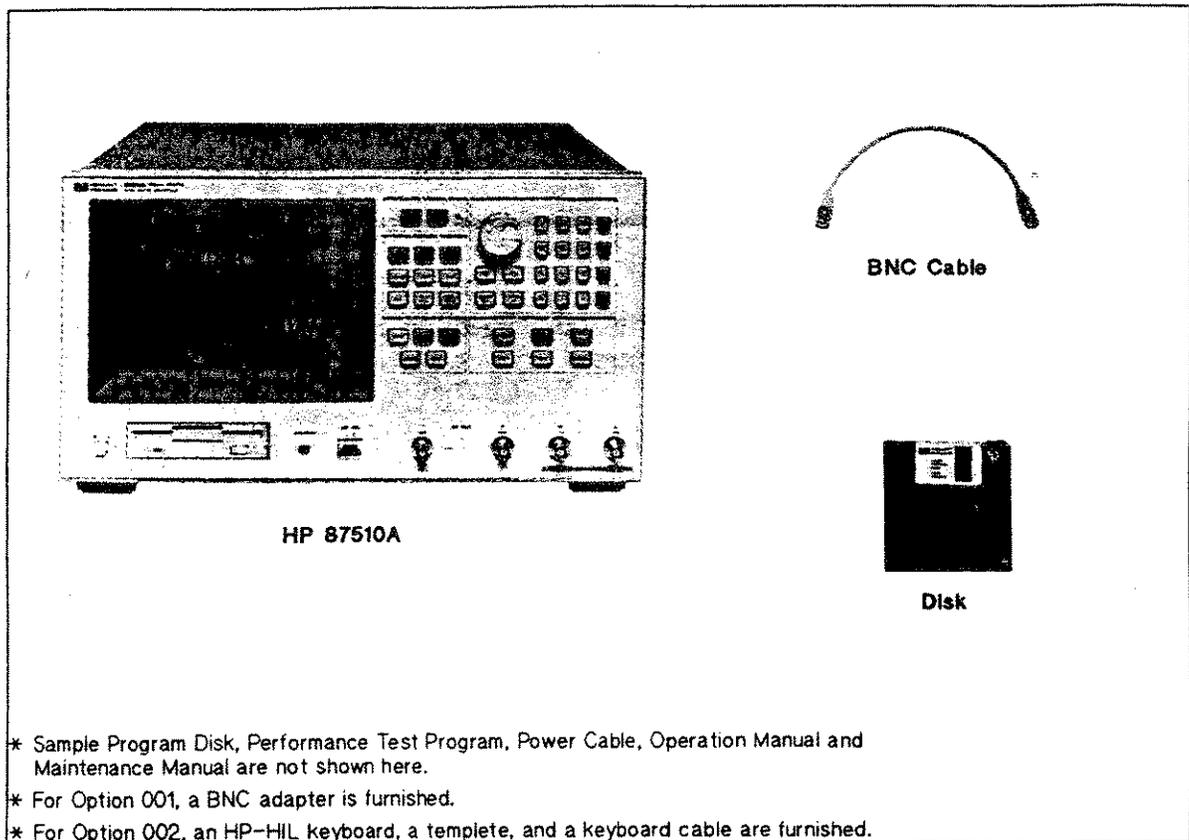

Figure 1-1. HP 87510A and Furnished Accessories
2. Verify that the shipping container contains everything shown in Figure 1-1.